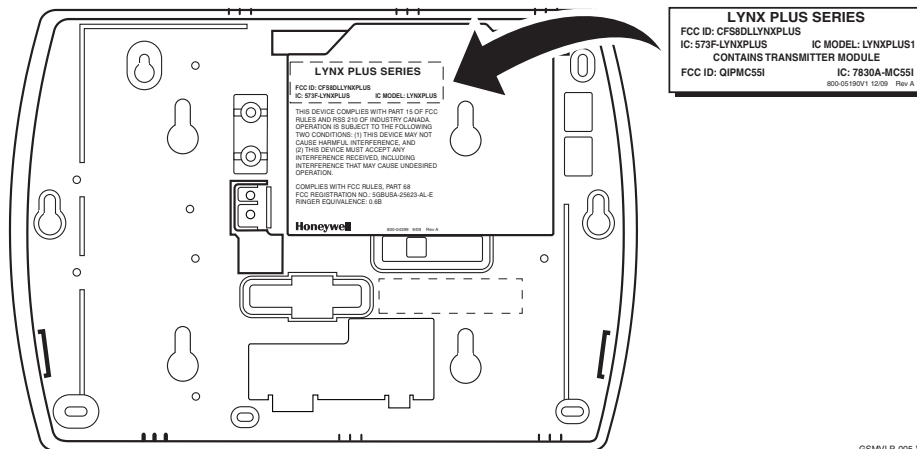

Figure 2 – FCC/IC Label location
1. Install the provided FCC/IC label (P/N 800-05190) on the control's back case as shown on Figure 2.